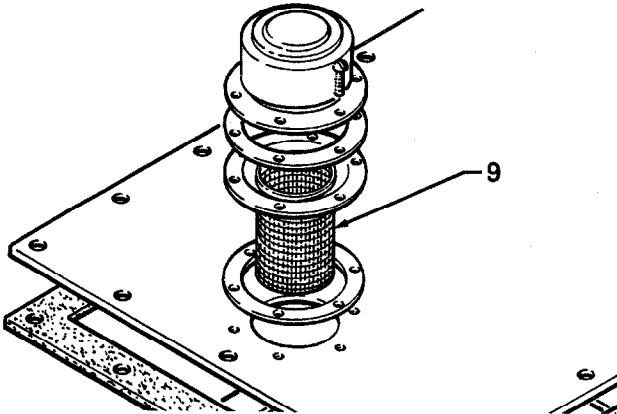

Fig 1
NOTE: Reference numbers and letters in parentheses in the text refer to the Typical Installation, Figures 1 through 9, and the Parts Drawing.
Check the hydraulic oil. Unscrew the cap of the intake filter (9) to see if there is enough hydraulic oil in the system. There should be 1 in. (25 mm) of oil visible in the bottom of the filter screen. See Fig 1. If necessary, add Graco approved hydraulic oil to the proper level. A completely full hydraulic system contains approximately 5 gallons (18.9 liters) of oil. See the ACCESSORIES section for Graco-approved hydraulic oil.